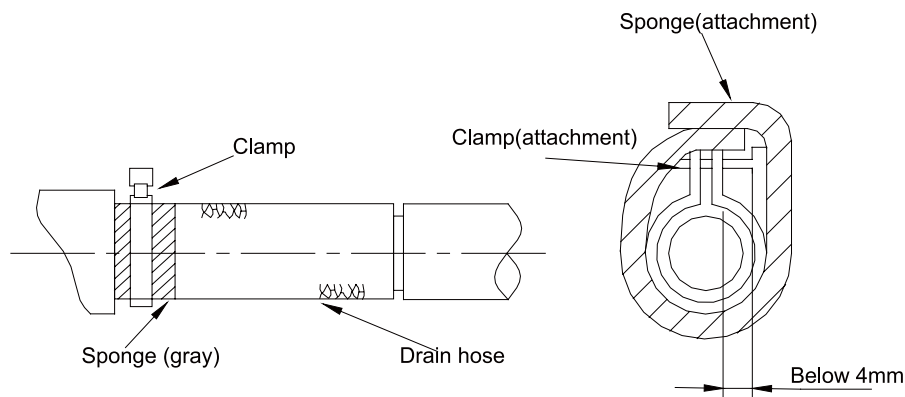

Figure 1-2-9
- Purchase general-purpose hard PVC pipe locally to be used as the drainage pipeline. When carrying out connection, place the end of the PVC pipeline into the drainage hole. Use flexible drainage tube and tighten it with thread loop. Never use adhesive to connect the drainage hole and the flexible drainage tube. (As shown in Figure 1-2-9)